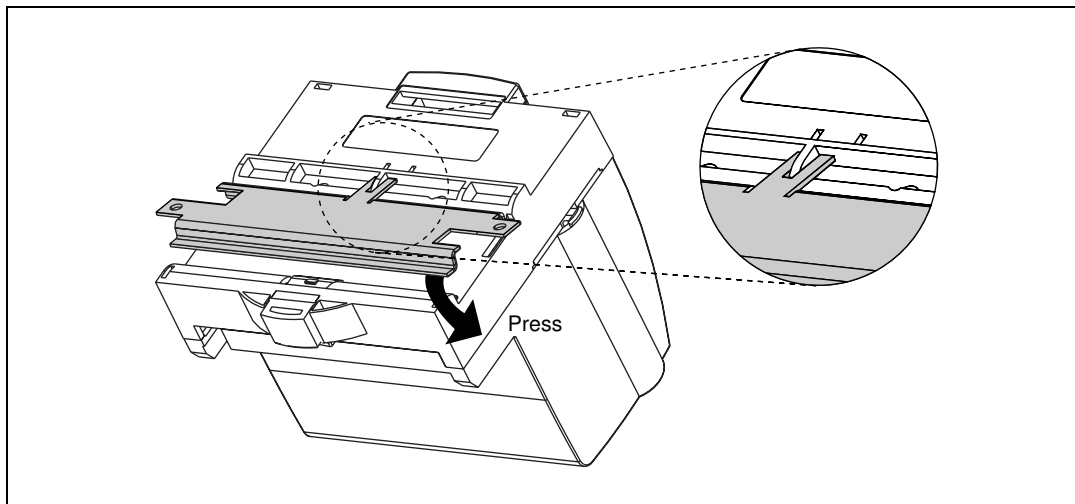

Figure 2-4. Installing the Network Panel Mount Accessory
| Figure 2-4. | Installing the Network Panel Mount Accessory | 2-4 |
2. Snap the panel mount accessory onto the module, as shown in Figure 2-4.